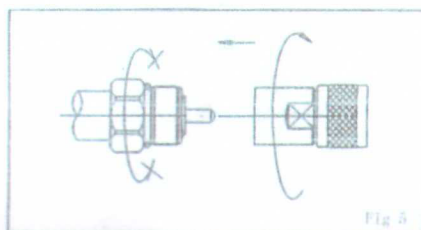

Fig 5
4) Install Main Shell Body: (Fig 5)